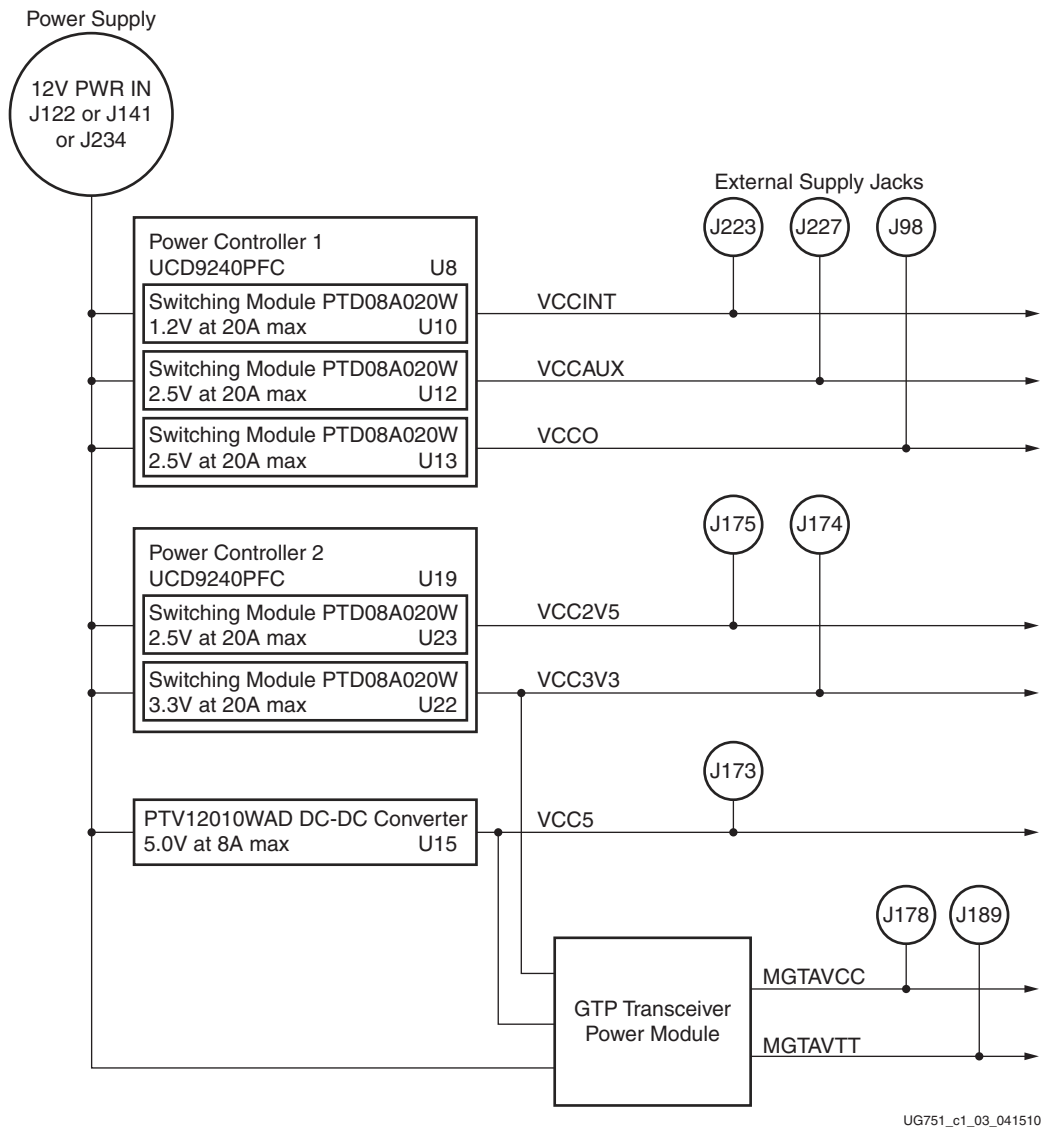

Figure 1-3: SP623 Board Power Supply Block Diagram
Figure 1-3 shows the on-board power supply architecture.
**Note:** Power regulation jumpers are not shown in Figure 1-3.